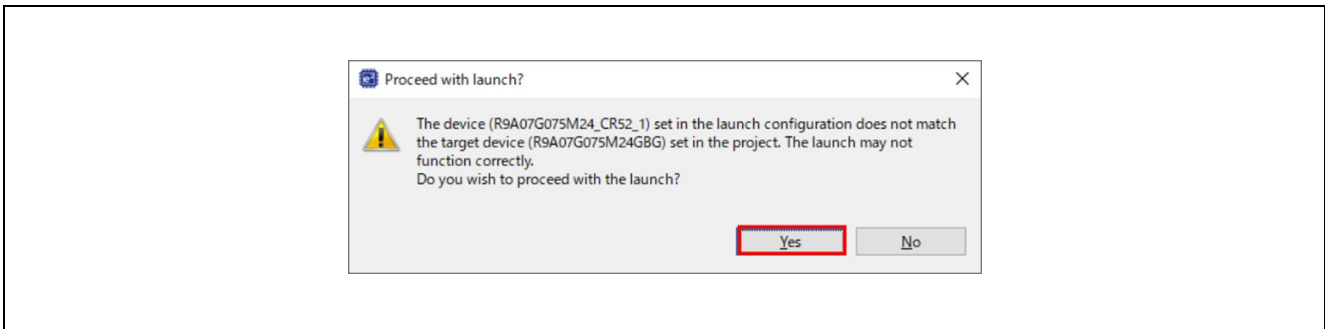

Figure 35 Warning Window of Device Name
- When Figure 35 is shown, please click **Yes** to proceed the launch.